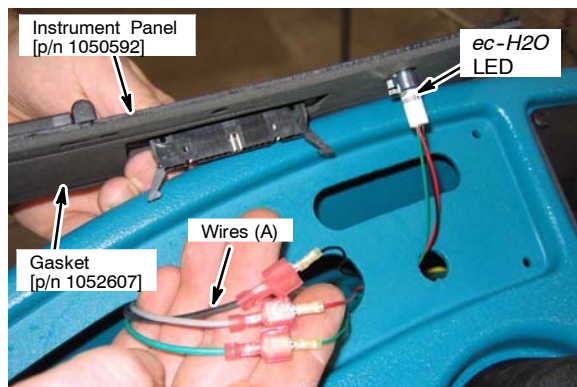

Fig. 6
5. Install the panel gasket [p/n 1052607] and the *ec-H2O* LED light [p/n 1041822] onto the new instrument panel [p/n 1050592]. Route the LED wires through the drilled hole and connect to the routed wire harness (Figure 6). Plug the main wire harness connector into the new instrument panel and fasten the panel to the steering column housing.